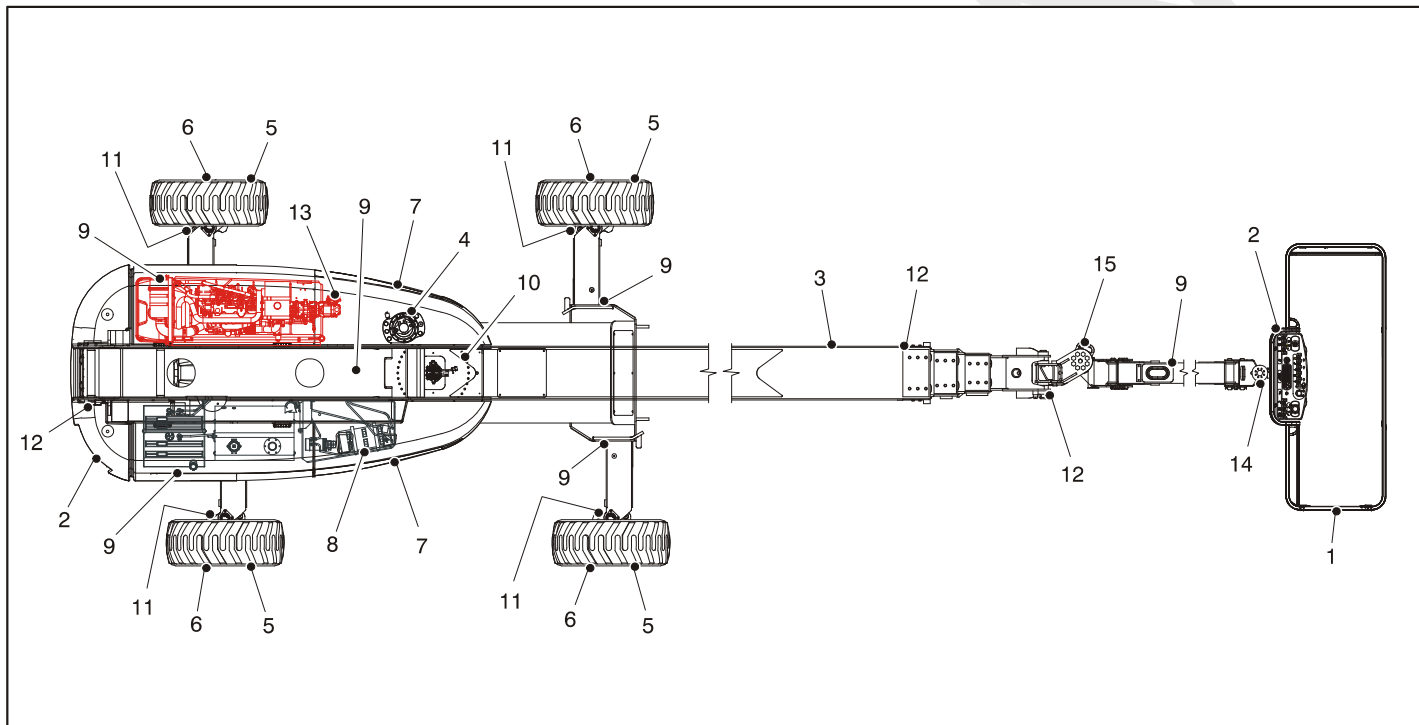

Figure 2-2. Daily Walk-Around Inspection - Sheet 1 of 3
5. **“Walk-Around” Inspection** – Refer to Figure 2-2. and Figure 2-3.